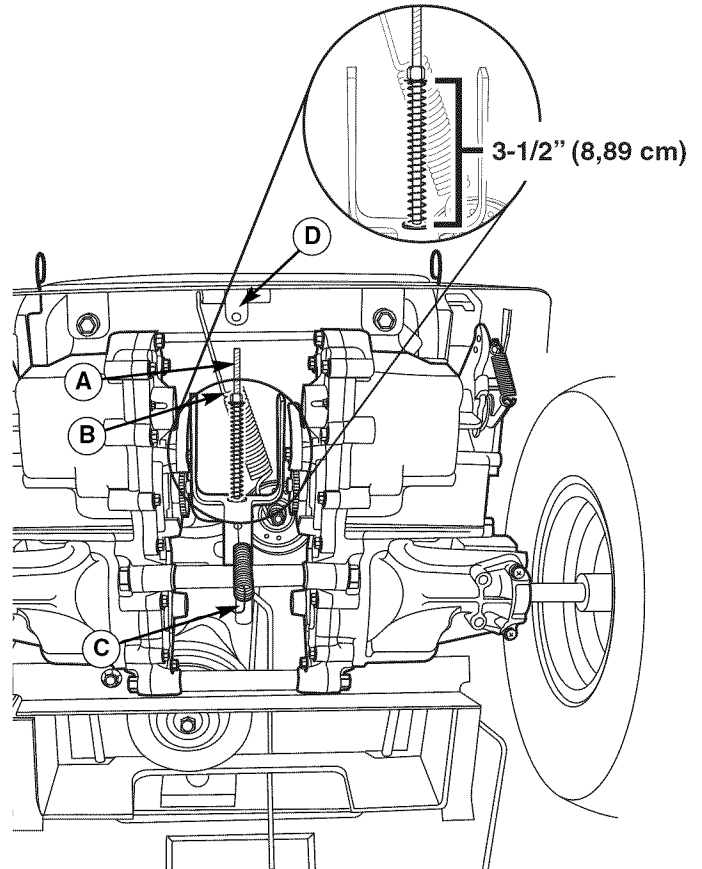

Figure 36. Brake Adjustment
4. Locate the brake rod (A, Figure 36) and adjustment nut (B).
5. Measure the parking brake spring. Its compressed length, with the parking brake lever in the ENGAGE position, should be 3-1/2” (8,89 cm). Adjust the spring length by turning the adjustment nut (B), if necessary.